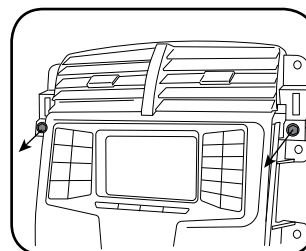

Fig. 1.9
9. Remove the two 7mm screws securing the vents to the factory trim panel. (Fig. 1.9)